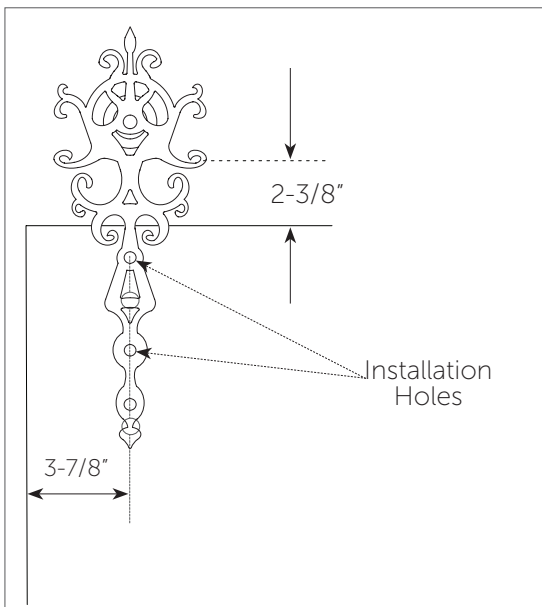

Figure 2
4. Adjust the placement of the hanger for a 2-3/8" gap between the top of the door and the bottom edge of the wheel. Ensure the widest portion of the hanger resting on the door is 2" from the edge of the door. (Figure 2).
5. Mark the center of each installation hole with a pencil. (Figure 2).